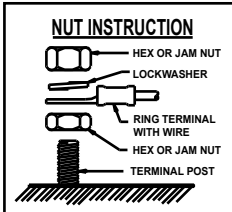

FIGURE 1
3. Install hardware to the studs in the order shown in Figure 1, being careful not to over torque the bottom hex or jam nut. Failure to install bottom hex or jam nut will void warranty and result in poor electrical connections.